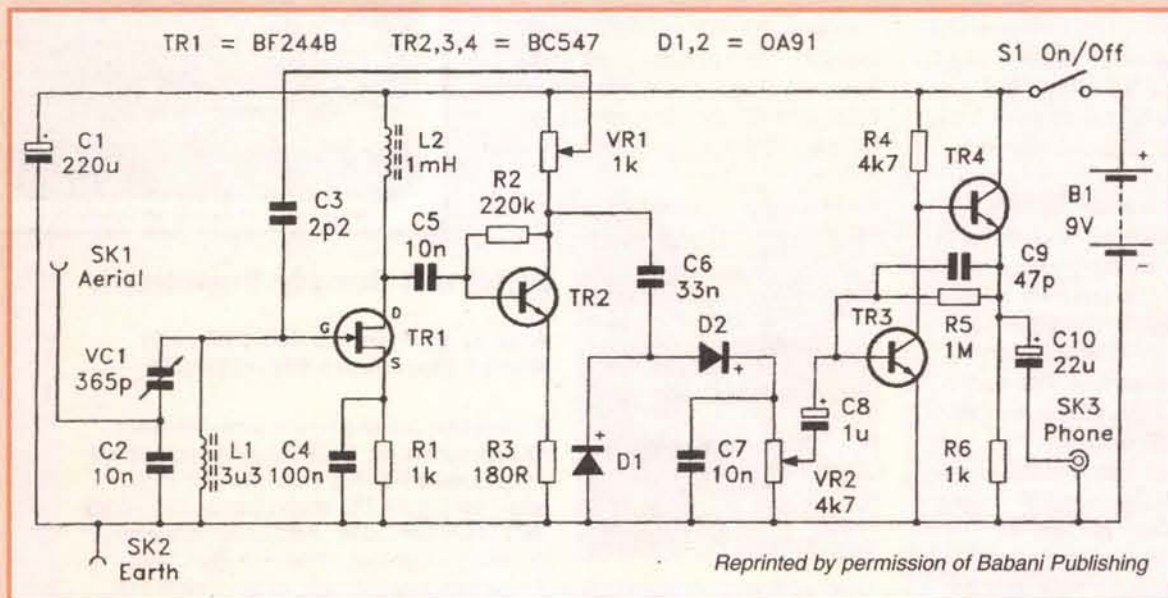

Figure 1: Schematic diagram of original TRF receiver connected to a long wire antenna.
Detailed in this article are modifications to the design of a shortwave (SW) receiver that — without greatly increasing complexity of the design — substantially improve reception of broadcast band (BB) stations. These modifications were done with the receiver described on pp. 53 to 63 of R.A. Penfold, *Simple Short Wave Receiver Construction* (Great Britain: Bernard Babani, 1990). For a copy of these pages, check out the Nuts & Volts website at www.nutsvolts.com. See Figure 1 of this article for the schematic diagram of the original design.